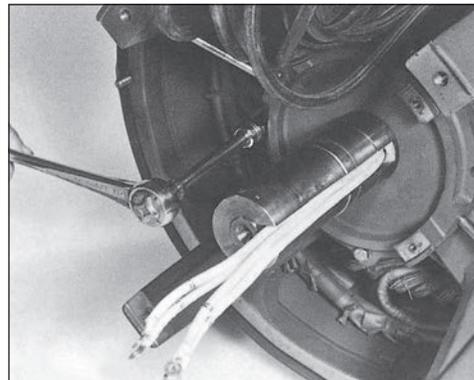

Figure 6-21
2. a. For single bearing generators, remove the four capscrews holding the bearing caps to the front end bracket (figure 6-21). Remove the outer cap (figure 6-22).
b. For two-bearing generators, remove the drive coupling or sheave and key from the shaft extension. Remove the four capscrews holding the bearing lock to the drive end bracket (figure 6-23). Remove the four capscrews holding the bearing caps to the front end bracket (figure 6-21). Remove the outer cap (figure 6-22).